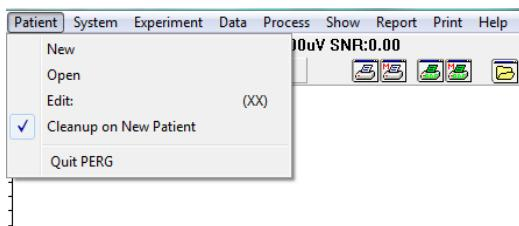

Fig. 2. - PERG Patient menu.
1. Open the Patient Demographics window by clicking on [Patient > New] from the PERG main menu (See Fig. 2 on page 10), or one of the patient buttons from the tool bar, then click the [Backup] button on the right hand side of that window.